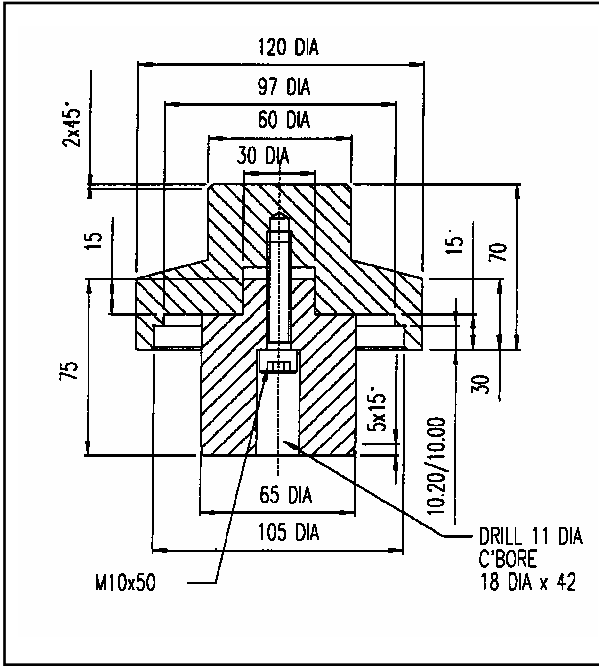

Figure B21 - Special Tool 9104-M-006/49
- 3.1. Position cone of inner bearing (item 9) into its mating bearing cup before fitting seal (item 10) using special tool 9104-M-006/49. (See figure B21).